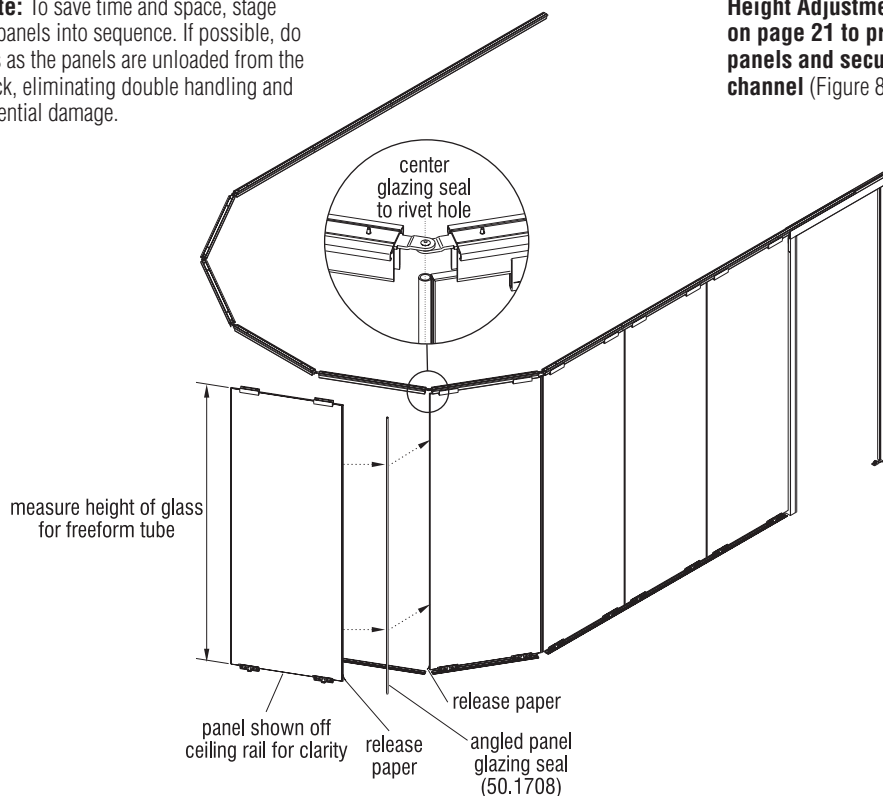

Figure 8 - Panels and Freeform Tube Install
ceiling rail first and hold the panel up & plumb to align the top with the installed ceiling rail (Figure 8).
18. With a second person holding the panel upright and secure, adjust the panel height up enough to nest up into the ceiling rail. **Follow "Panel Height Adjustment" instructions on page 21 to properly level panels and secure to top frame channel** (Figure 8).
19. Starting from one end of the curve remove the release paper from the VHB tape on the edge of the Lightline panel (Figure 8).
20. Measure the height of the glass and cut the angled panel glazing seal extrusion (50.1708) to length (Figure 8).
22. Bond the angled panel glazing seal extrusion to the edge of the glass using the rigid seal alignment block. Place the top of the seal extrusion centered on the top edge of the glass and use the block to guide the glazing seal onto the edge of the glass by sliding the block down the edge of the glass (Figure 8).
23. Move this panel so that the center of the glazing seal extrusion is aligned with the rivet in the splice (Figure 8).
25. Pull the second glass panel back about $\frac{1}{4}$ " and remove the release paper from the VHB tape on the edge of the glass panel (Figure 8).